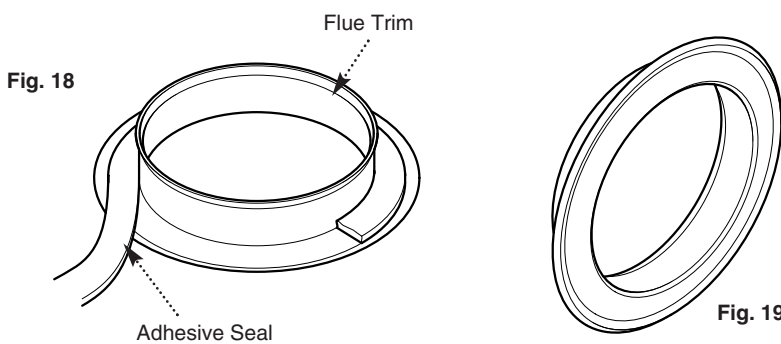

Fig. 19
3. Locate the trim over the flue terminal and push it back to the wall to compress the seal (Fig. 19).